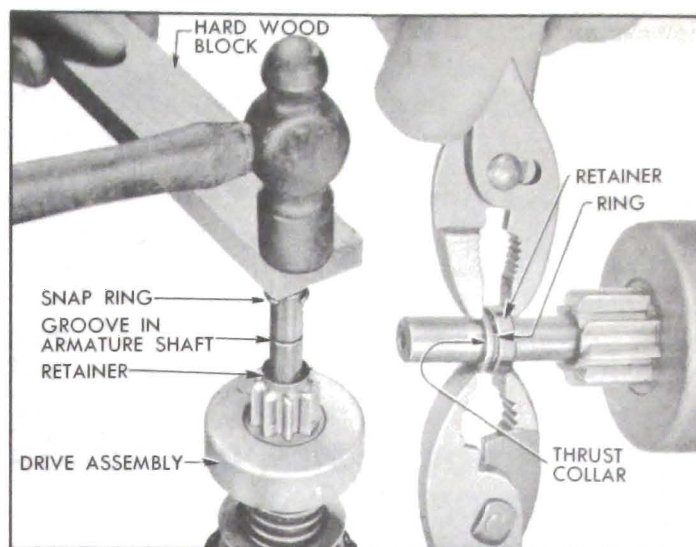

Figure 10-33—Pinion Stop Retainer and Snap Ring Installation
5. Place a new snap ring on drive end of shaft and hold it in place with a hard wood block. Strike block with hammer to force snap ring over end of shaft, then slide the ring down into groove in shaft. See figure 10-33, view A.
6. Place thrust collar on shaft with shoulder next to snap ring, and move the retainer into contact with ring. Using pliers on opposite sides of shaft squeeze retainer and thrust collar together until snap ring is forced into the retainer. See figure 10-33, view B.